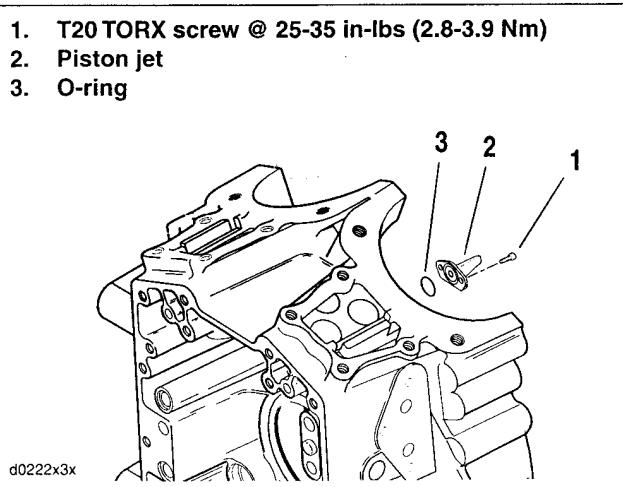

Figure 3-156. Piston Jets
1. See Figure 3-156. Remove two T20 TORX screws (1) to free piston jet (2) from crankcase.
2. Remove O-ring (3) from groove in mounting flange of jet. Discard O-ring.
1. See Figure 3-156. Apply a very thin film of clean H-D 20W50 engine oil to new O-ring (3) for piston jet. Install new O-ring in groove of jet mounting flange.
2. With jet pointed upward, start two T20 TORX screws (1) to secure piston jet (2) to crankcase. Tighten to 25-35 in-lbs (2.8-3.9 Nm).